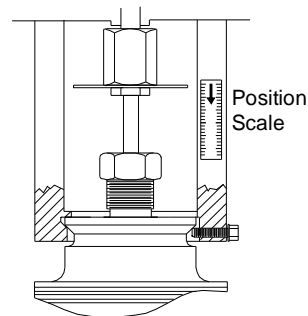

Figure 8: Installing the Position Scale
14. Attach the position scale label to the actuator yoke as shown in Figure 8. Place the second label on the backside of yoke.